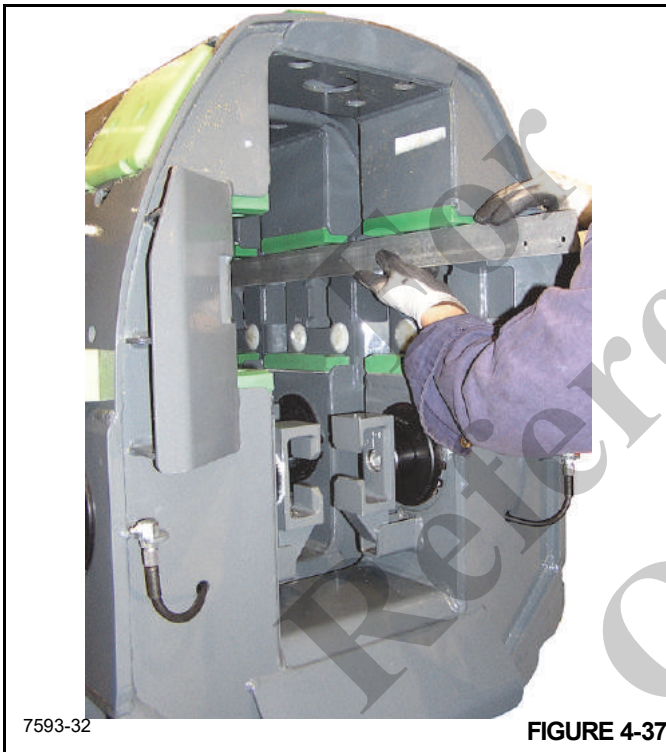

FIGURE 4-37
19. Check each matching set of sliders in section 5 and in section 4 with a straight edge (Figure 4-37). Shim sliders as needed if not aligned per straightedge check.